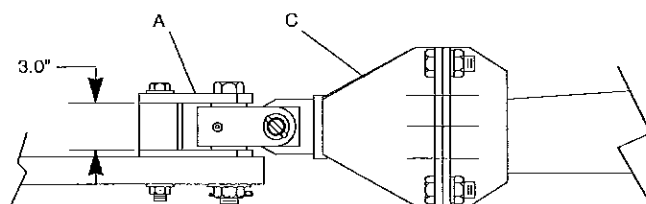

FIGURE 4 - HITCH INSTALLATION
Attach harvester to tractor with yoke weldment (A) and bolts provided. See figure 4 for proper installation. The existing tractor clevis may be used if a 3 inch spacing can be maintained. If tractor drawbar mounting hole is larger than  $1\frac{1}{4}$ ", a bushing should be installed.